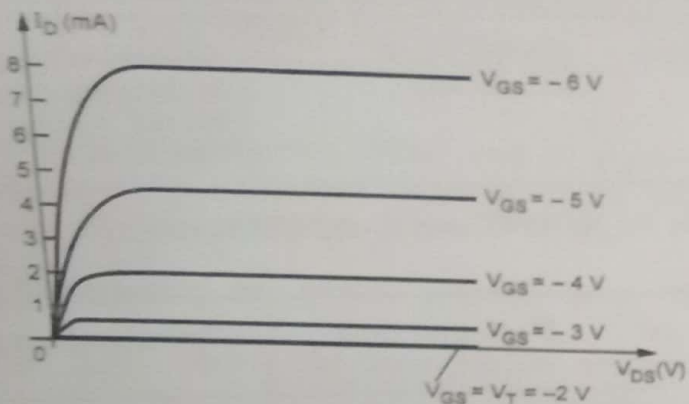

Fig. Q.53.2 Drain characteristics of p-channel enhancement MOSFET
- As shown in the Fig. Q.53.2 voltage polarities and current directions are reversed. The drain characteristics appear exactly as in the Fig. Q.53.2 but with V_{DS} with negative values, I_D in opposite direction and V_{GS} having opposite polarities as shown in the Fig. Q.53.2.